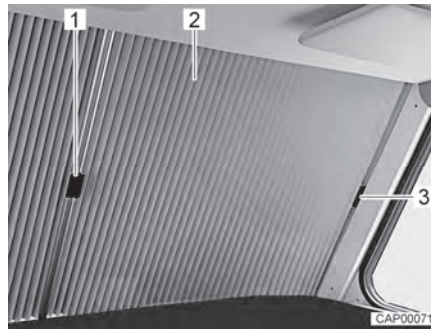

Fig. 2 Roman shade for windscreen (closed)
- Push the respective handle (Fig. 2,1) of both halves of the Roman shade (Fig. 2,2) outwards, underneath the cover on the A column.
- Fix the handles respectively by plugging them onto the cover (Fig. 2,3). Thus, the windscreen shade is secured against closing involuntarily during the journey.